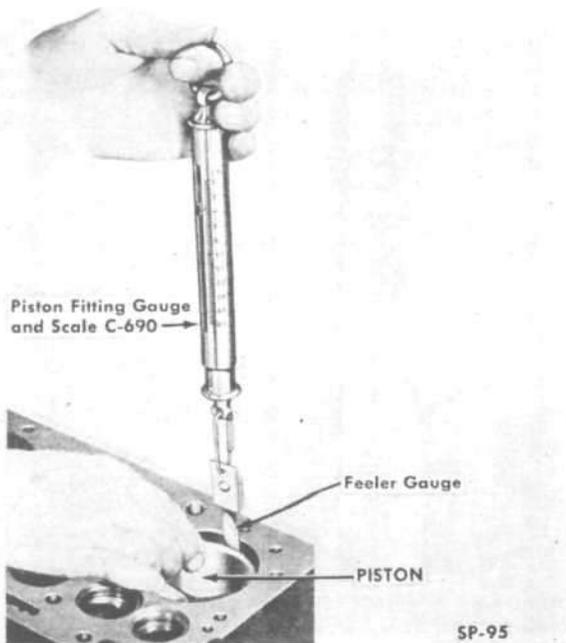

FIG. 37—FITTING PISTON IN CYLINDER BORE
- Check fit of each piston to cylinder bore, when block and pistons are clean and dry and at approximately 70° F [21° C] by using Piston Fitting Gauge and Scale C-690 as shown in Fig. 37. Use a .004 inch [.1016 mm.] thickness gauge ($\frac{1}{2}$ inch wide) [12,7 mm.] if old pistons are to be used. When fitting new pistons, use .0015 inch [.0381 mm.] gauge. The piston is fitted upside down in the block to facilitate the operation, and the gauge must extend the full length of piston on the thrust side (side opposite slot in piston skirt). Scale should register 5-10 pounds [2,26-4,53 kg.] pull to remove thickness gauge from between cylinder wall and piston. Excessive pull indicates need for a slightly smaller piston or additional honing of cylinder. Insufficient pull indicates need for fitting a larger piston.